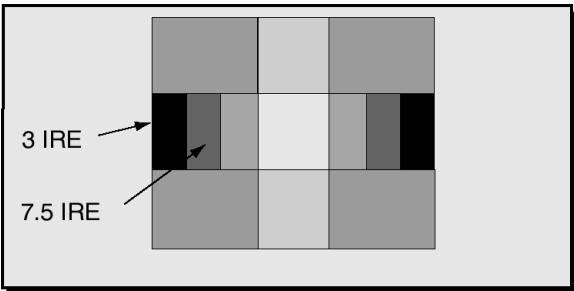

Figure 57. Black Levels Pattern
4. Adjust DAC BRIGHT data so that 7.5 IRE part is same light output as 3 IRE part (See Figure 57).
1. Apply a Black levels Pattern (See Figure 57)